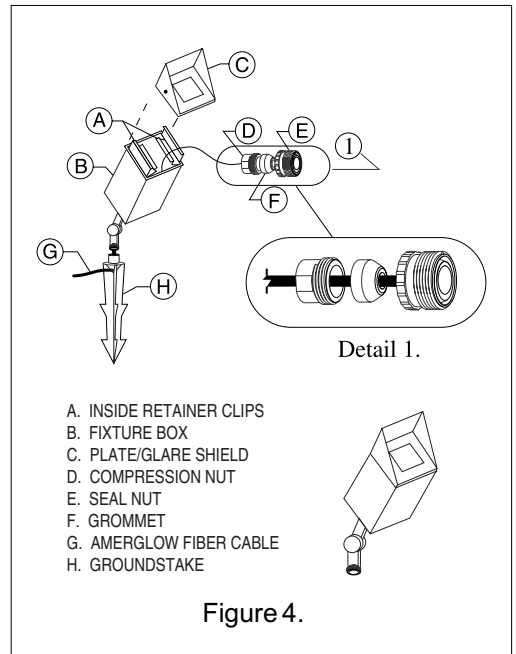

Figure 4.
1. Remove the front window plate/glare shield by sliding (or pulling) the plate/glare shield off the fixture box, see Figure 4.
2. Run the AmerGlow™ fiber cable directly into the hole provided in the back of the fixture box, see Figure 4.
5. Slide the compression nut over the cable, see Figure 4, Detail 1.
6. Slide the appropriate grommet over the cable until the jacket is flush with the front of the grommet, see Figure 4, Detail 1.
9. Once the fibers are terminated, carefully pull the AmerGlow™ fiber cable backwards through the fixture box to the inside retainer clips, see Figure 4.
12. Position the Directional Spot groundstake by pushing it into the soil. **Do not force.** In hard soil conditions, soak the ground with water before inserting the groundstake, see Figure 4.